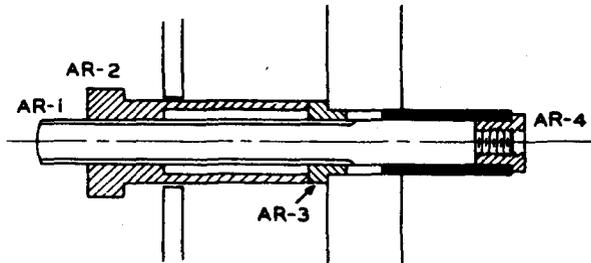
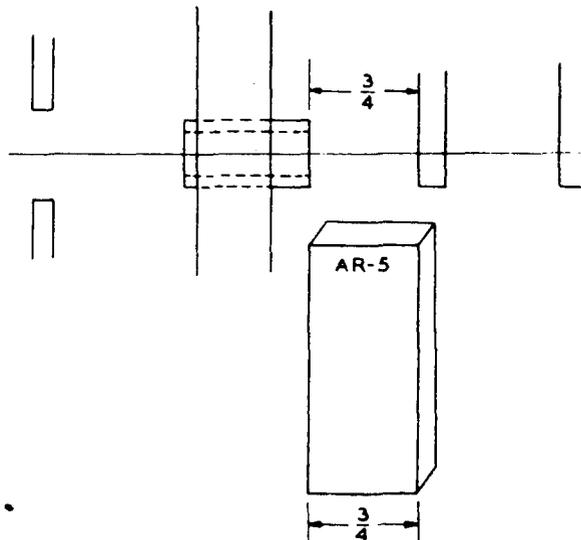

Fig. 32
Fig. 33
(15) To insert a new tell-tale shaft bearing in the main frame casting use the tool assembly shown in Fig. 32. The parts to this tool assembly are marked AR-1, AR-2, AR-3 and AR-4. Make certain that the oil hole in the bearing is lined up for the corresponding oil hole in the casting so that when the bearing is finally in place the hole in the bearing will coincide with the hole in the casting. Start the new bearing into place by tightening the AR-2 nut. Remove the AR-3 collar after the bearing has been started. Then with the AR-3 collar removed, force the bearing into place by tightening the AR-2 nut. Use the AR-5 gauge block to obtain the $\frac{3}{4}$ -inch spacing shown in Fig. 33.